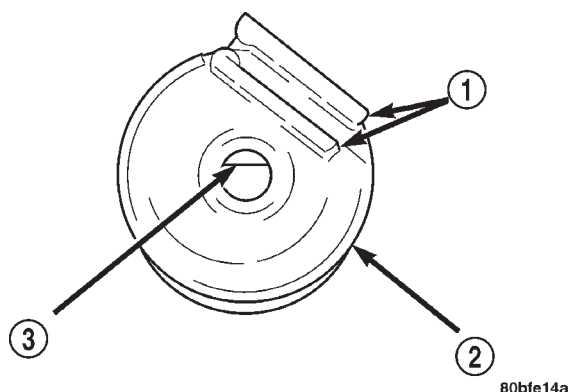

Fig. 72 Flat Inside BTSI Solenoid
(1) Align the flat inside the brake transmission shift interlock (BTISI) solenoid (Fig. 72) with the flat on the shift lever mounting stud.